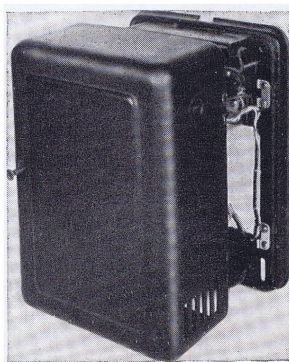

Fig. 1—534-type Subset Showing Hinges Reversed
- 2.02 Subsets should be accessible for inspection and repairs. There should be adequate clearance to permit covers to be opened or removed readily. Subsets with hinged covers require 2-3/4 inches on the hinge side for opening the cover. Where it is impracticable to obtain this clearance, remove the hinges and replace them in the reverse position. The locking screw will hold the cover in place. (See Fig. 1.)